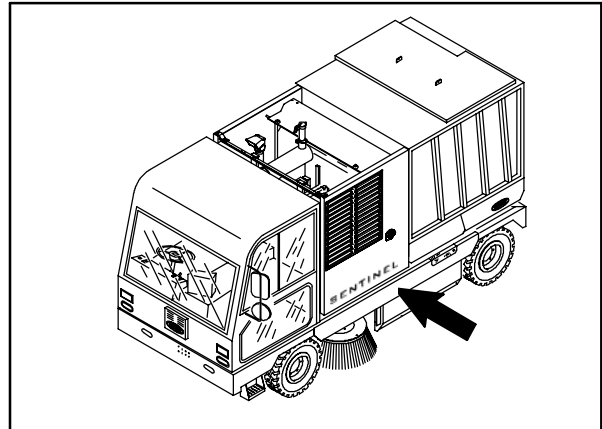

FIG. 21
37. Remove the cover from the left channel. Set the cover and mounting hardware aside. Refer to Fig. 21.